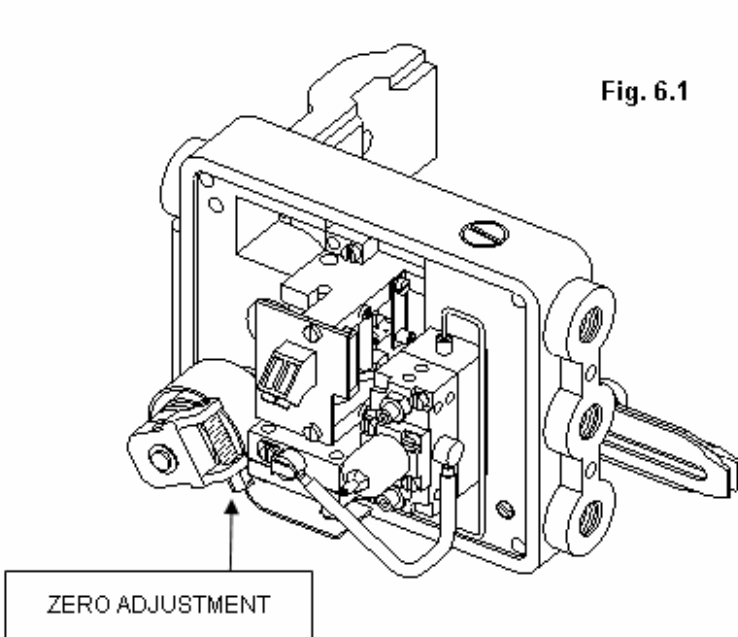

Fig. 6.1
2. Inject a signal of 4 mA (or 3psi) and adjust the start screw as per fig. 6.1 such that the position of the valve is at the fully extended position. At this point the valve plug should just be touching its seat and any counter rotation of the start screw causes the valve to retract. Set the valve position indicator.